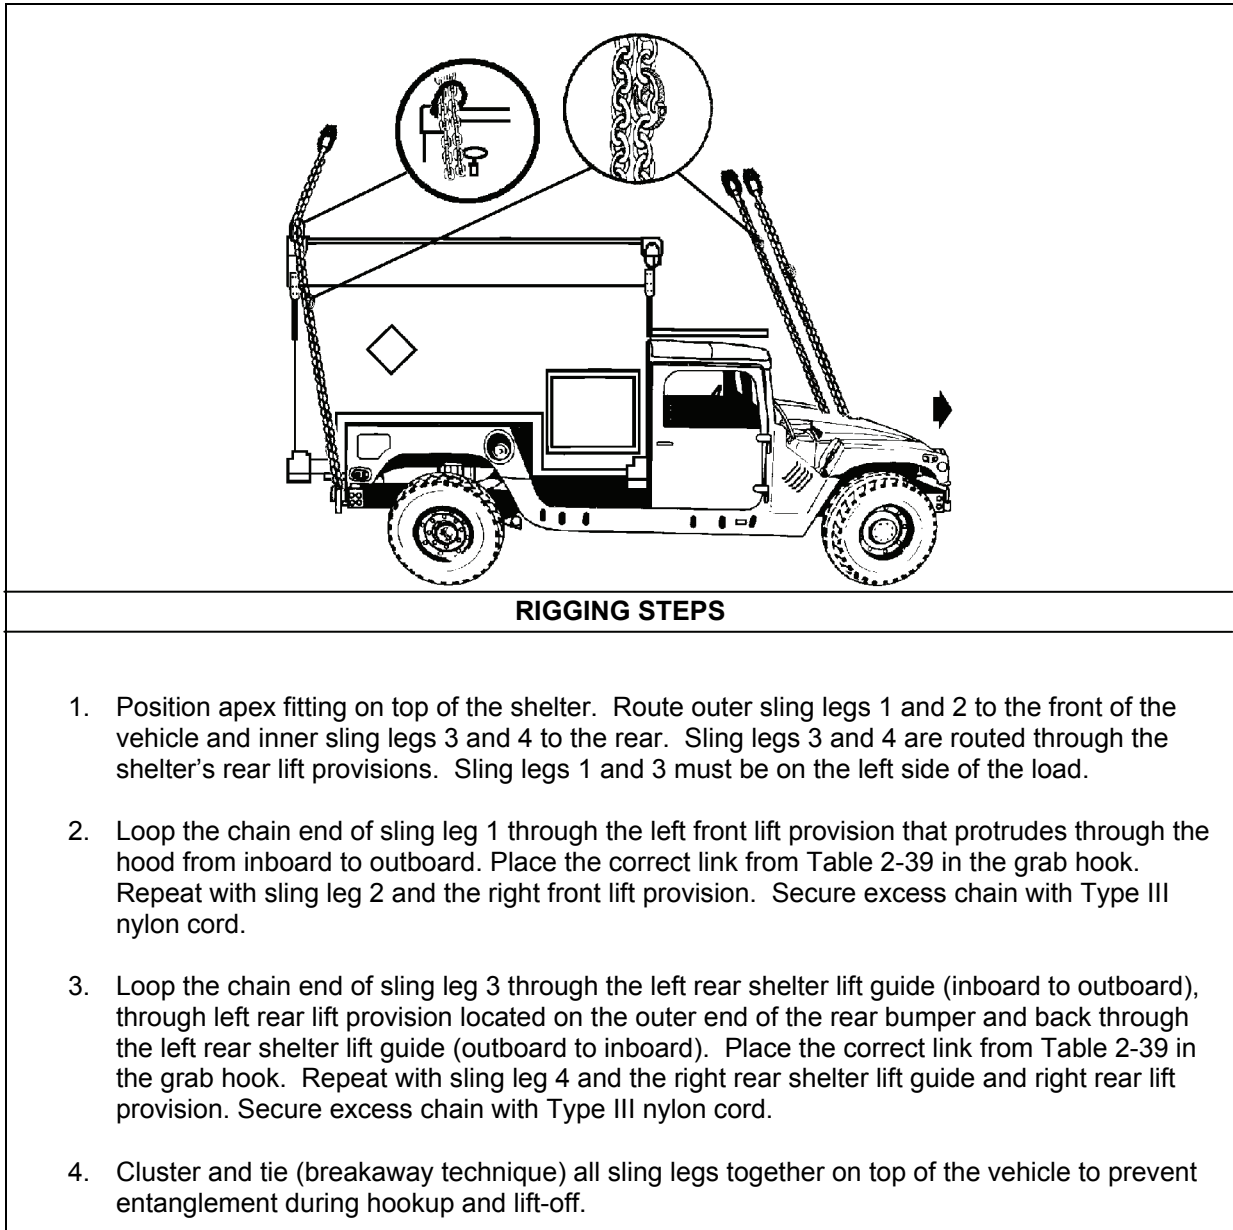

Figure 2-38. M1113 with Petroleum Quality Analysis System Shelter
- **Rigging.** Rig the load according to the steps in Figure 2-38.